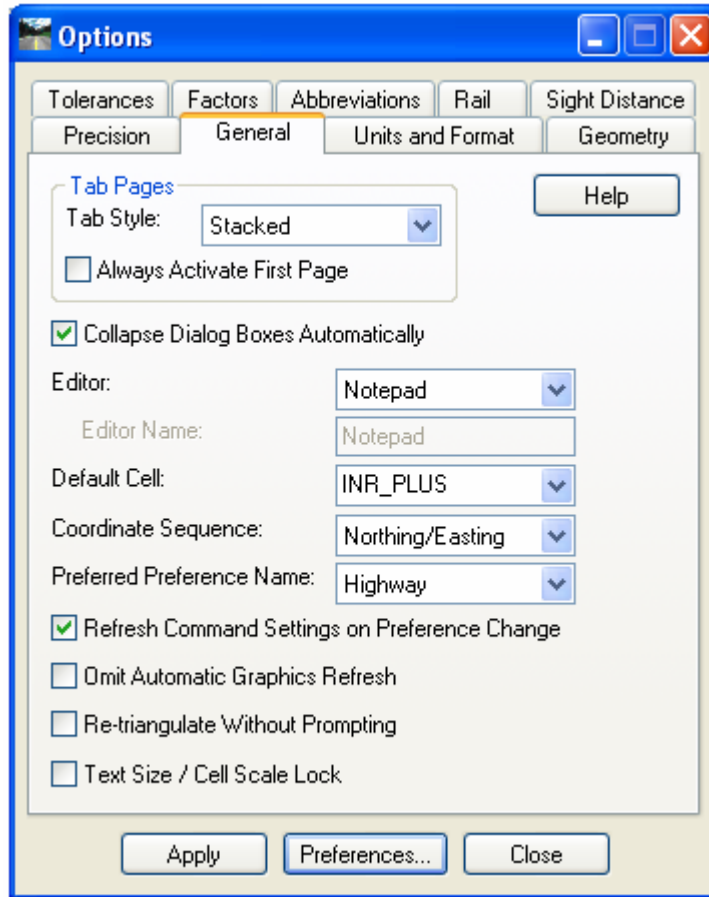

Figure 1-12 InRoads Options Dialog Box
- A. From the InRoads Menu Bar select **Tools < Options**. See Figure 1-12.
- C. Select the **General Tab**. In the **Preferred Preference Name** box select the required discipline name. See Figure 1-12